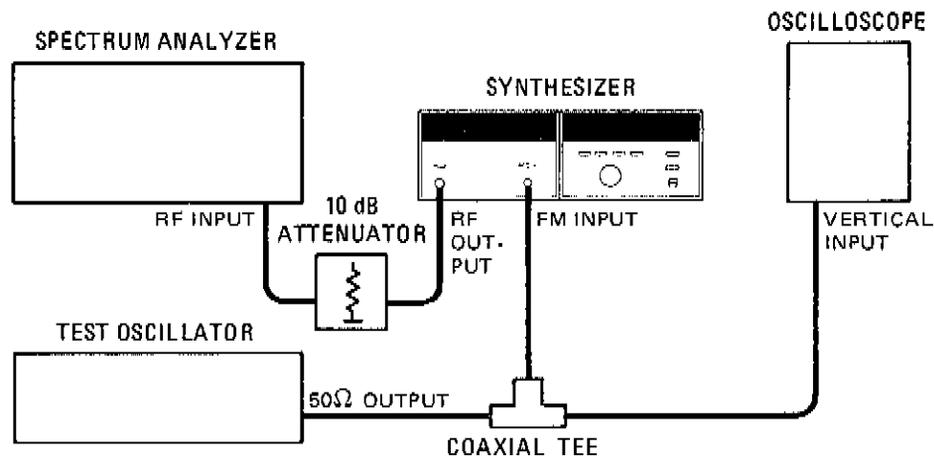

Figure 5-6. YTO Loop Offset and FM Overmodulation Adjustment Test Setup
3. Connect the equipment as shown in Figure 5-6.